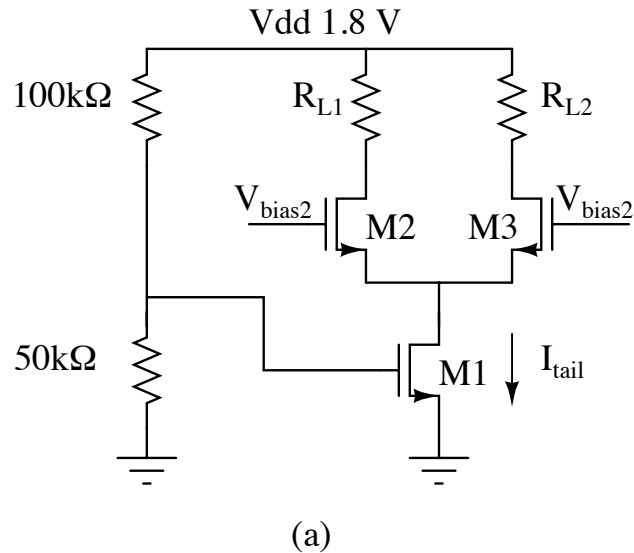
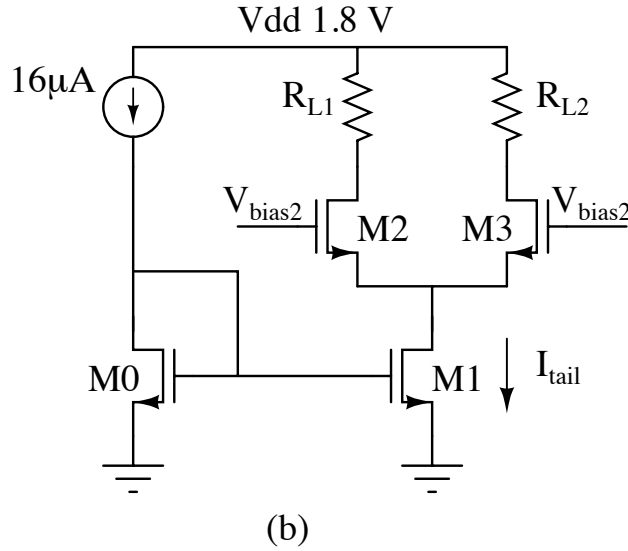
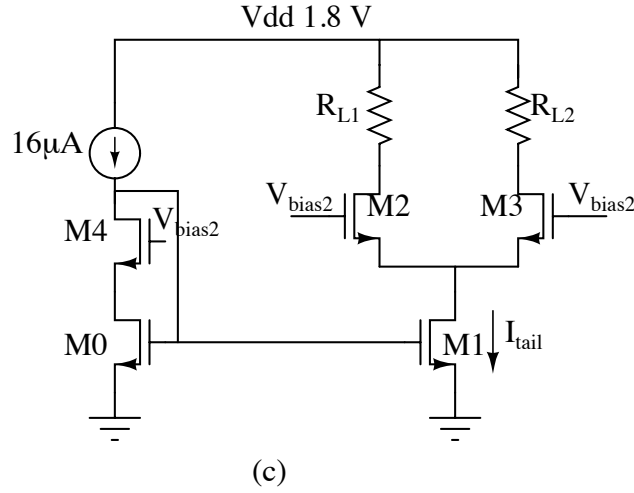

Figure 1: Biasing Scheme (a)
Figure 2: Biasing Scheme (b)
Figure 3: Biasing Scheme (c)
Consider the biasing of the differential pair shown in Fig1, Fig2, Fig3. All device sizes are indicated in the following table. The differential pair is intended to be operated with all transistors in saturation in strong inversion. In other words, assume that the input signals to the differential pair are small and swing around some bias voltage  $v_{bias2}$  (or equivalently the current through the two transistors M2, M3 varies around  $\frac{I_{tail}}{2}$ ).
- Here (Fig2) the gate voltage applied to the transistor M1 is obtained by biasing a similar transistor (M0) using a reference current source. If we assume all transistors have infinite output impedance, what is the current  $I_{tail}$ ? If instead the transistors M0 and M1 have a  $g_m r_o$  of 10, and the drain of M1 is assumed to be at  $550 \text{ mV}$ , what is the value of  $I_{tail}$ ? (Hint: use small signal analysis to provide a rough estimate of the current)
- Here (Fig3) we try to further improve the current mirrored in to M1. What do you think is the reason behind a claim that this scheme is better than the scheme shown in Fig2? For best results, what should the size of the device M4?